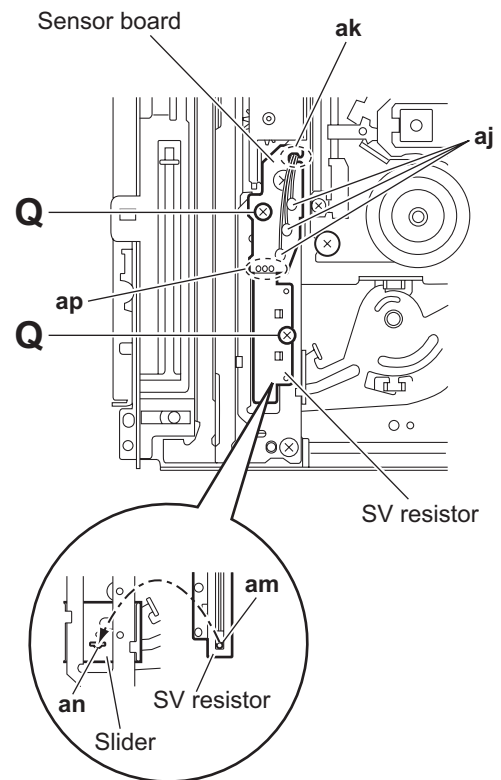

Fig.33
3.3.14 Removing the sensor board and SV resistor (See Fig.33)
- Remove the tray assemblies, side (L), side (R) assembly and lifter assembly.